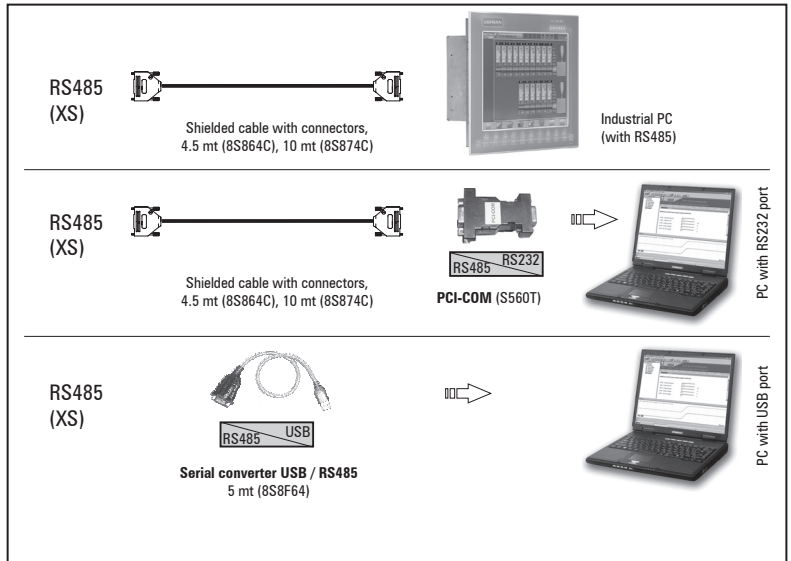

Figure 5.5.1.2: Collegamento RS485 al PC
- shielded cable for the **XS / RS485** connection (see figure 5.5.1.2), code 8S864C (L=4.5 mt) or 8S874C (L=10 mt).
- shielded cable for **XS / PCI-COM** (or PCI-485) connection, code 8S864C (L=4.5 mt) or 8S874C (L=10 mt), see figure 5.5.1.2 .
The following is required for connection: optional adapter USB/ RS485, code 8S8F64, see figure 5.5.1.2 .